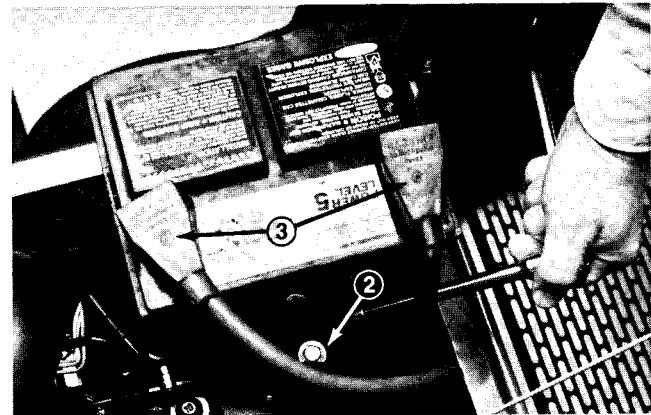

Figure 65
3. Disconnect both the positive (+) and negative (-) battery cables from the battery (Fig. 65). Loosen the battery securing bolt and remove the battery. Remove the battery mounting plate.